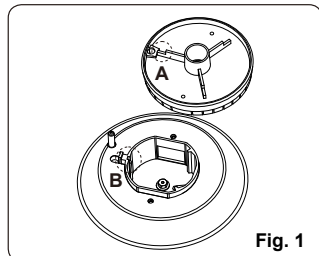

Fig. 1
1.) Align the burner (Point A, Fig. 1) with the notch in the bottom cup (Point B, Fig. 1).